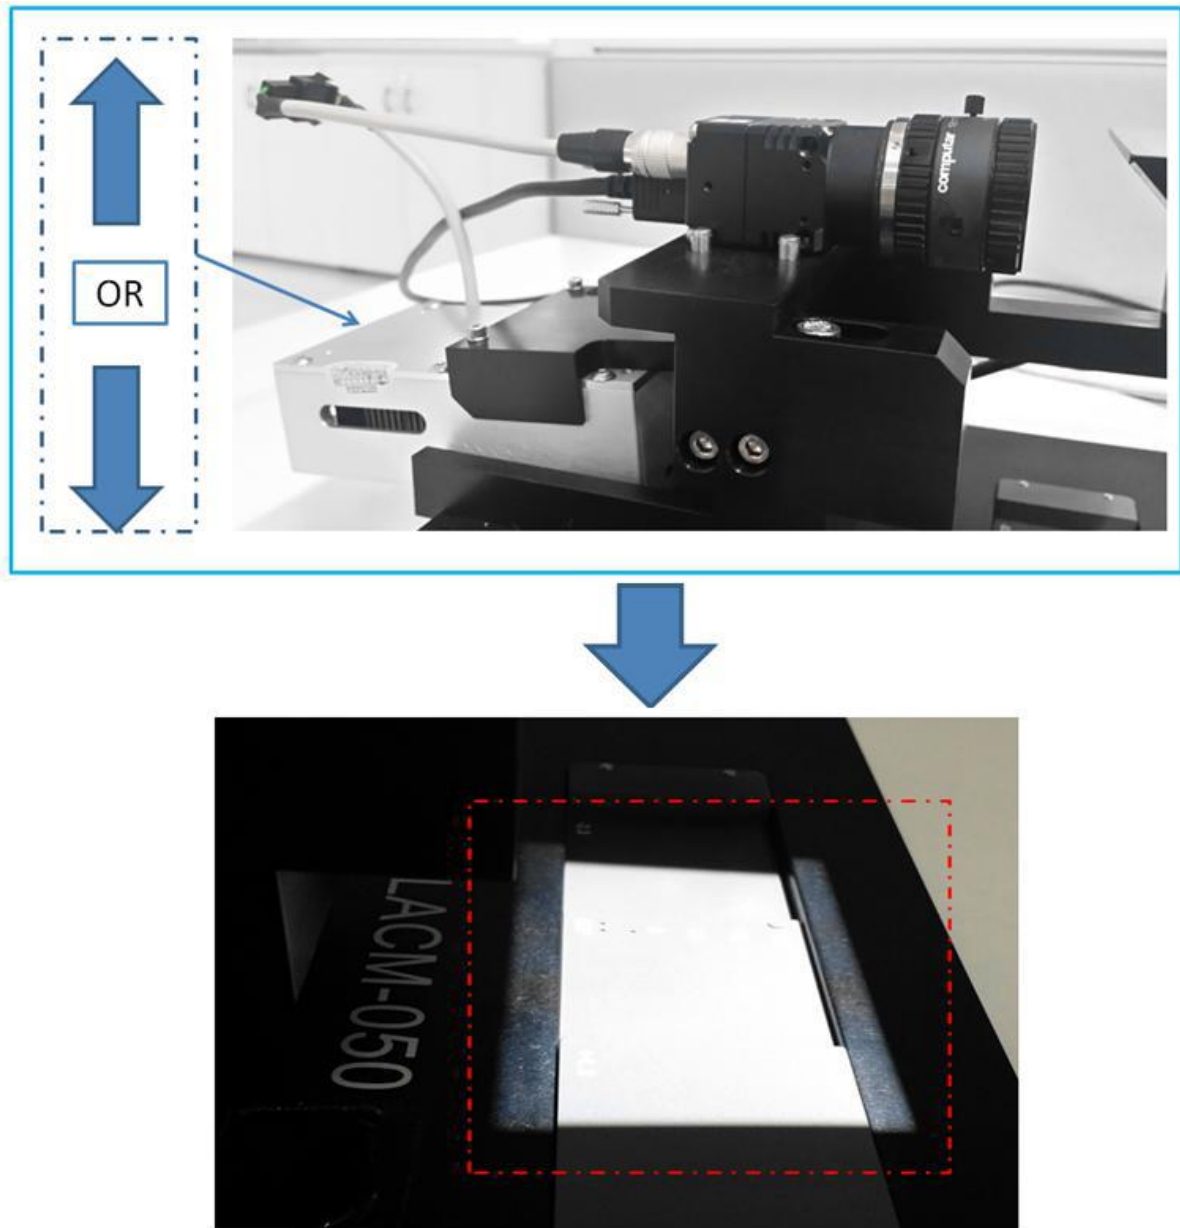

Figure 38 White Light Projection Coverage Area
36. Adjust the Projector angle until white light projection is fully covered on the calibration plate as below Figure 38.